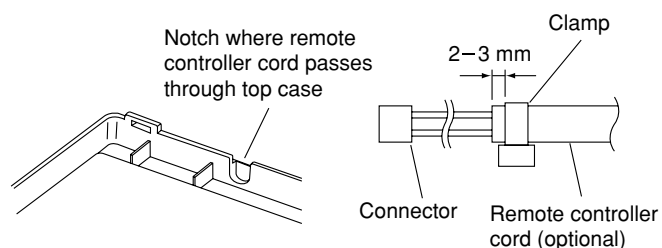

Fig. 11-24
2. In order to later pass the receiver wiring out through the upper case (thin part at the top center), use nippers or a similar tool to cut a notch in the same size as the remote controller cord (optional). (Fig. 11-24)